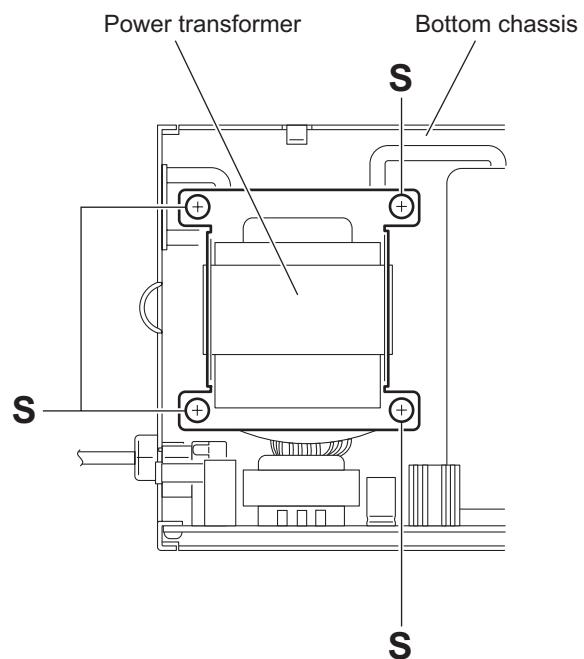

Fig.23
- From the top side of the main body, remove the four screws **S** attaching the power transformer to the bottom chassis. (See Fig.23.)